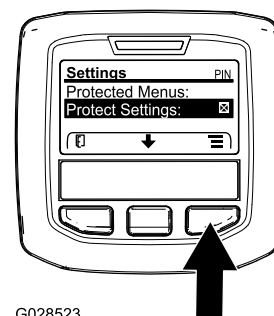

Figure 17
1. From the MAIN MENU, use the center button to scroll down to the SETTINGS MENU and press the right button (Figure 17).